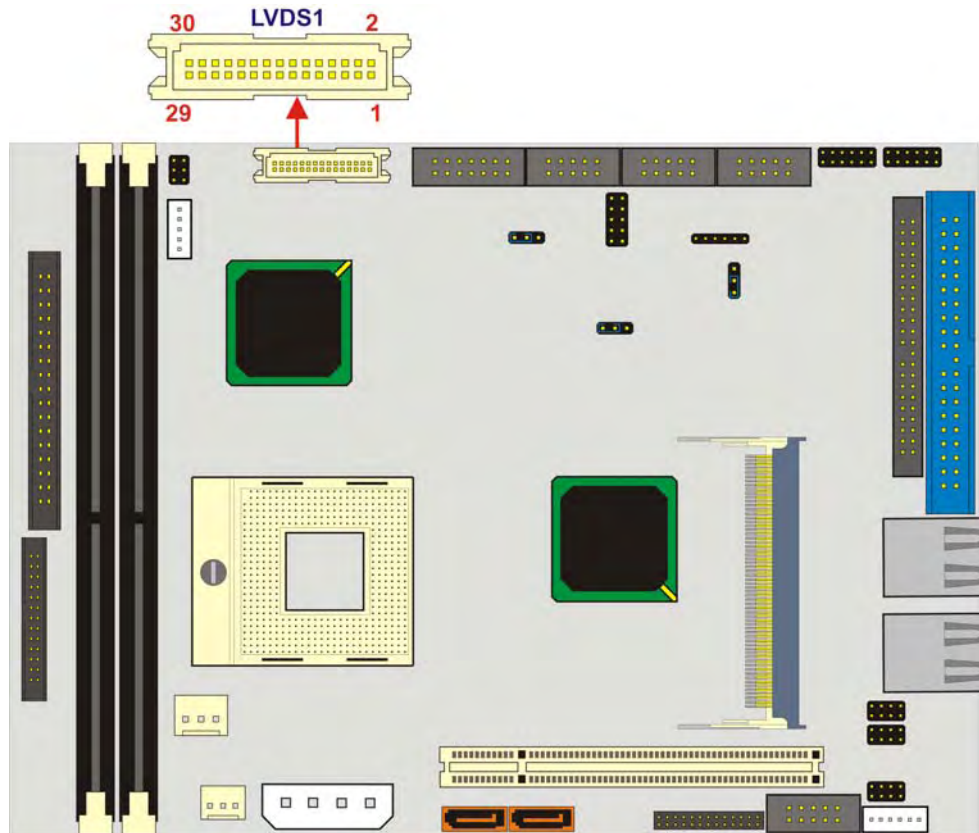

Figure 3-17: LVDS Connector Locations
- CN Location:** See **Figure 3-17**
- CN Pinouts:** See **Figure 3-17**